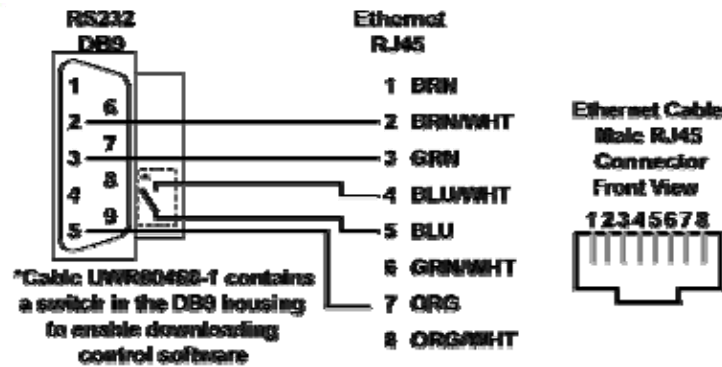

Figure 1.3 – RS232 Network Connection
- ☐ **5.2:** Connect the controller to the S+/S- and R+/R- terminals on the F7 drive's terminal block as shown in *Figure 1.3 – RS422/485 Connections*.